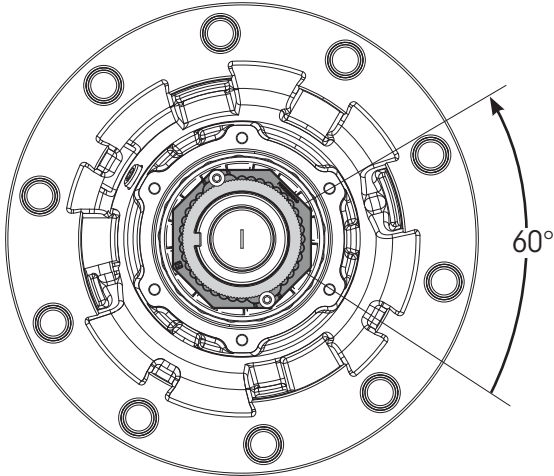

Figure 11: Back off nut 1/6 turn
8. **Back-off** nut 1/6 turn (Figure 11, one hubcap screw hole).